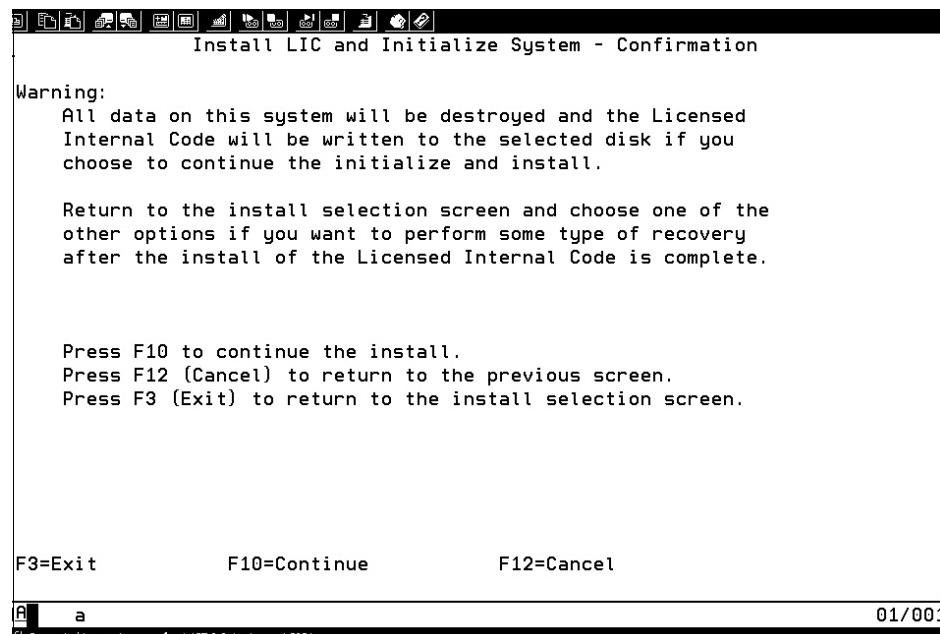

Figure 7-54 Confirm definition
9. The Confirmation screen appears as shown in Figure 7-54 on page 299. This procedure causes existing data on the disk assigned to this logical partition to be lost. Press **F10** to continue or press **F12** to Cancel and return to the previous screen.